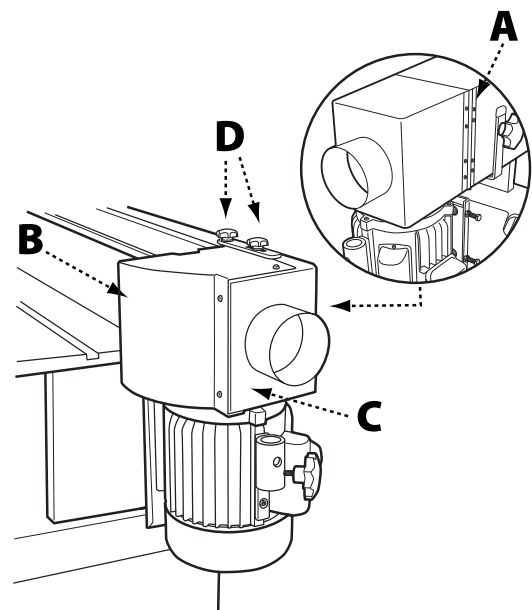

FIGURE 6
- 12mm flat washers (2)
1. Attach one side of the hinge assembly (A) to the rear belt guard using four Phillips head screws.
2. Place the drum guard (B) over the dust chute (C) as shown in Figure 6.
5. Assemble one 12mm flat washer on each of the two 12mm lock knobs (D) and insert one lock knob through the slot in the connection plate and the other through the hole in the connection plate.